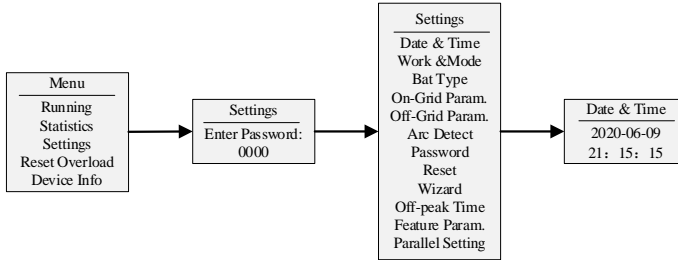

Fig.7-1 Setting data and time
Step 2: Set the date and time after powering up the inverter for the first time, as shown in fig.7-1.